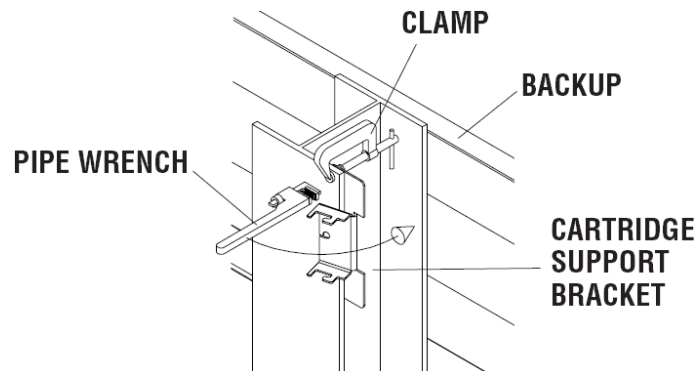

Figure 51
- B. Clamp Cartridge Support Bracket to Backup and begin bending using pipe wrench (Figure 51).